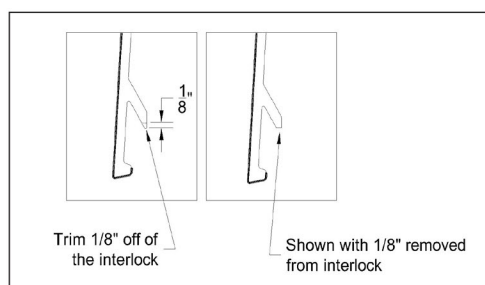

Figure 8
- Trim 1/8" off of the interlock located on the back of the last plank. For gables, where it can be especially tight, cut off the ends of the interlock diagonally. Face nail the last piece of siding with a color matched fastener or trim nail. This is the only instance when you should fasten through an Everlast plank (Figure 8).